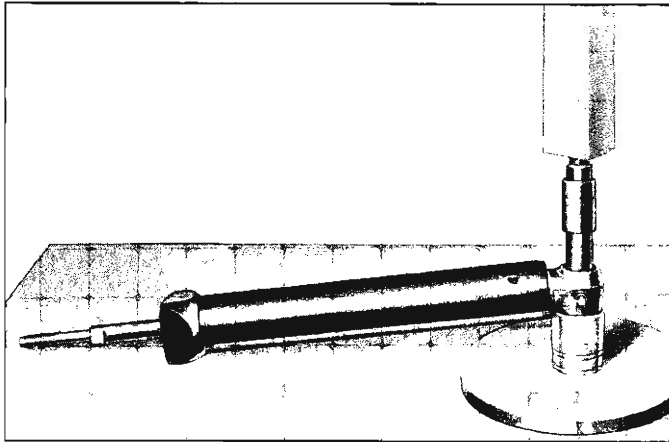

Fig. 90—Removing Ball Cup
2. To remove the ball stud, depress the end plug and remove the snap ring. Push on the end of the ball stud and the end plug, spring, spring seat and ball stud may be removed. If the ball seat is to be replaced it must be pressed out, using Tool J-8937 (figs. 90 and 91).